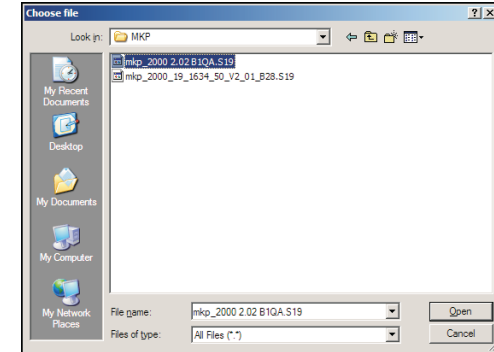

Figure 5-9 — Firmware upgrade Choose File window
7. On the Firmware Upgrade page, click the **Browse** button. A Choose File window opens (figure 5-9).